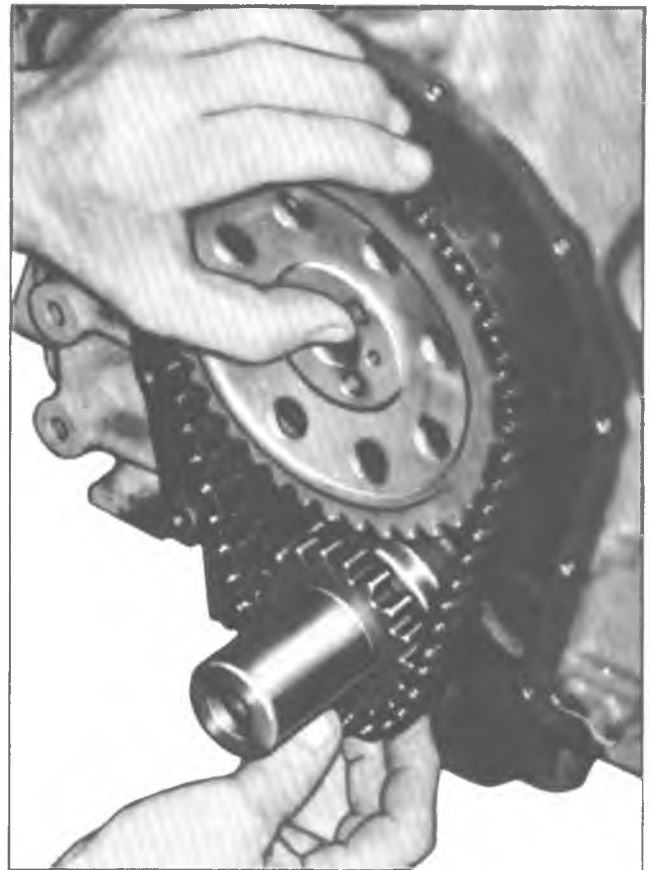

Fig. 25V—Installing Timing Chain
6. Install timing chain on camshaft sprocket. Hold the sprocket vertically with the chain hanging down and align marks on camshaft and crankshaft sprockets (fig. 25V).